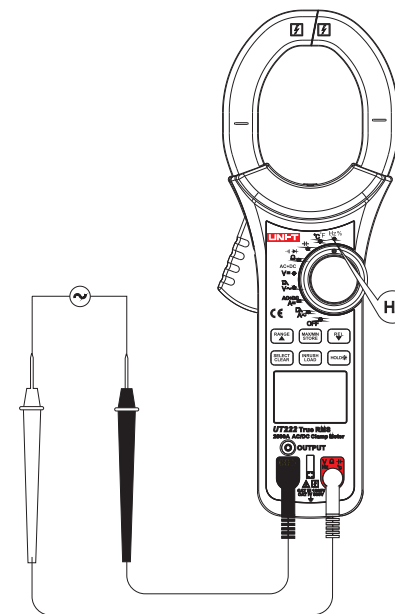

Figure 10
## 7. Frequency/duty ratio measurement (See Figure 10)
- Current measurement must be operated within  $0^{\circ}\text{C} \sim 40^{\circ}\text{C}$ , if positive reading is achieve after measuring DC current, the current direction will be from up to down (See Figure 10: the upward is panel and base cap is downward). Do not loosen trigger abruptly, since Hall component is sensitive in some extent to magnet, heat and mechanical stress, but also to the impact, which may cause short-time reading variation.
- Current measurement must be operated within  $0^{\circ}\text{C} \sim 40^{\circ}\text{C}$ , if positive reading is achieved after measuring DC current, the current direction will be from up to down (See Figure 10: the upward is panel and base cap is downward). Do not loosen trigger abruptly, since Hall component is sensitive in some extent to magnet, heat and mechanical stress, but also to the impact, which may cause short-time reading variation.
- Current measurement must be operated within 0°C~40°C, if positive reading is achieve after measuring DC current, the current direction will be from up to down (See Figure 10: the upward is panel and base cap is downward). Do not loosen trigger abruptly, since Hall component is sensitive in some extent to magnet, heat and mechanical stress, but also to the impact, which may cause short-time reading variation.